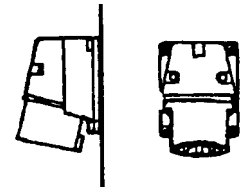

Figure 26 CEE male connector.
- 133* 32 A, 380-415 V, 3p + PE (see Figure 26).
- 136* 32 A, 380-415 V, 3p + N + PE (see Figure 26).